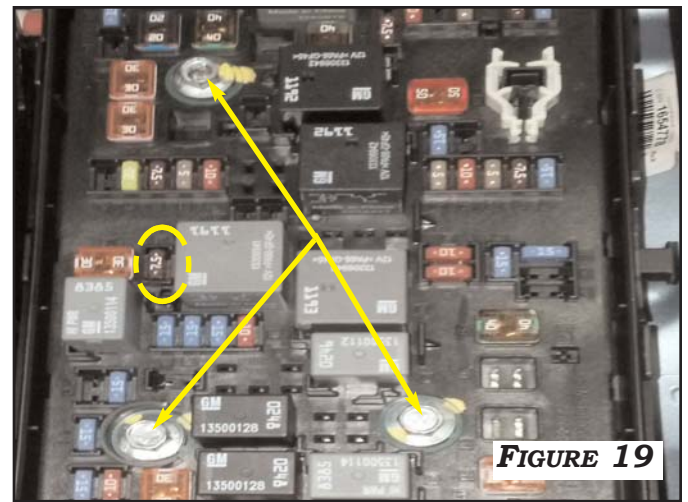
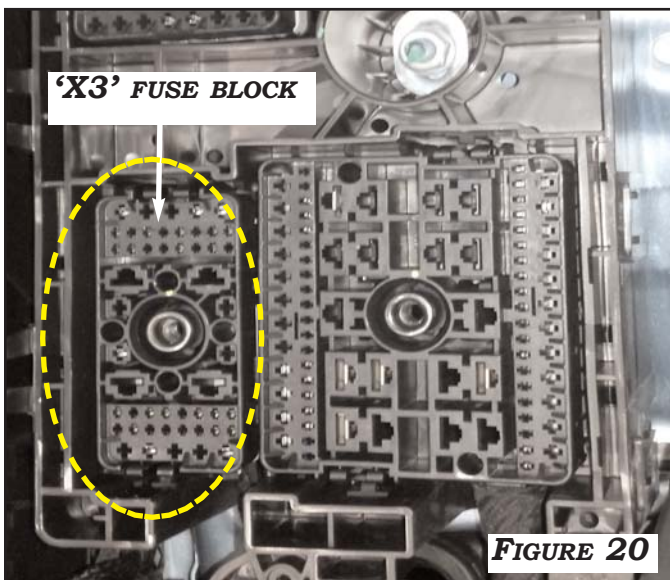

FIGURE 19
FIGURE 20
5. LIFT OFF THE COVER TO THE FUSE BOX AND UNSCREW THE THREE 10MM BOLTS HOLDING THE TOP OF THE FUSE BOX AND AND THE FUSE BLOCKS TOGETHER. THEN REMOVE THE TOP OF THE FUSE BOX EXPOSING THE FUSE BLOCK TERMINALS UNDERNEATH. **FIGURE 19 AND FIGURE 20**